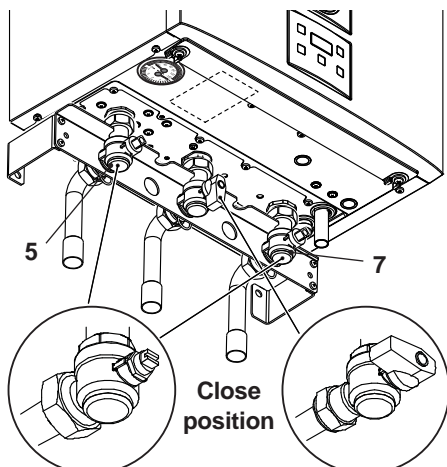

Fig. 9.4
- Close the c.h. isolating valves (5 and 7 in Fig. 9.4).